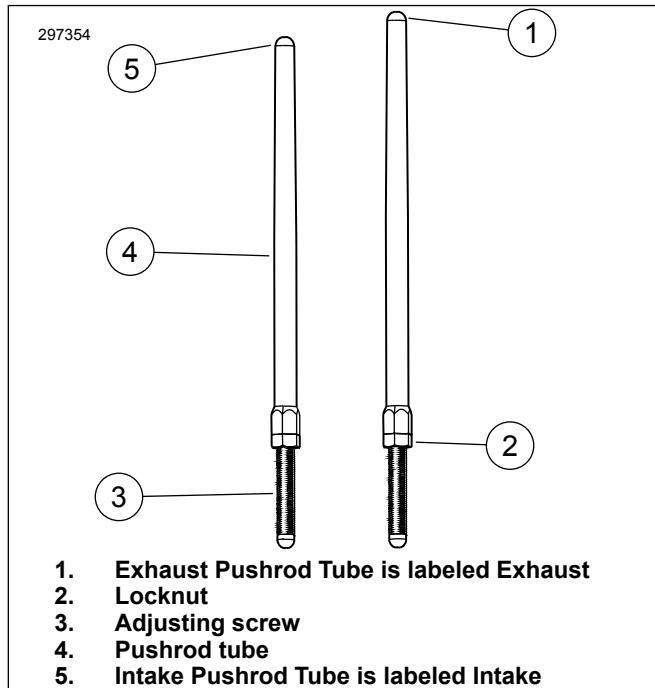

Figure 1. Adjustable Push Rod
4. See Figure 1. Loosen locknut on all of the pushrods and adjust them to their shortest length.
2. See Figure 1. With the pushrod adjusting screw kept from rotating with a 5/16 in. wrench, slowly turn the pushrod tube with a 1/2 in. wrench, 2-1/2 complete turns clockwise (lengthening the pushrod) as viewed from the bottom. (There is a dot on the flats of the pushrod tube that can be used as a reference.)